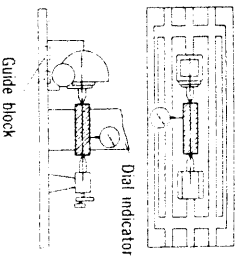

Fig. 1
- (1) Clean the table top of the milling machine and the bottom of the head-stock & tail-stock.
- (2) Fit the head-stock and the tail-stock to the T-slot on the table of the milling machine and put a test bar between the both centers. Fix a dial indicator to the milling machine as shown in Fig. 1.